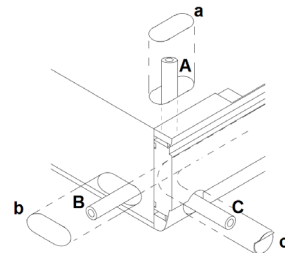

fig. 9
2. Insert the 4 nuts for temporary support of the unit into the stud. (Fig.9). Ensure the hanger is strong enough to withstand the weight of the unit.